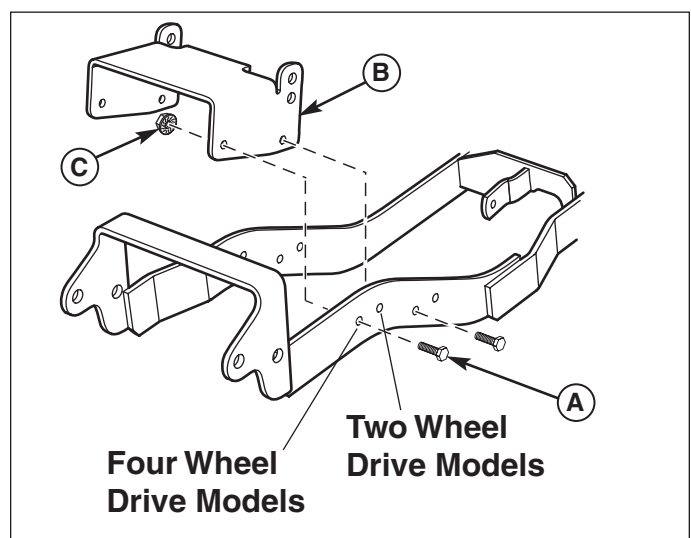

Figure 4. Assemble Push Bar Latch
1. Attach Push Bar Latch (B, Figure 4), to hitch. Secure with four .38-16 x 1 bolts (A), and four .38-16 flange nuts (C).